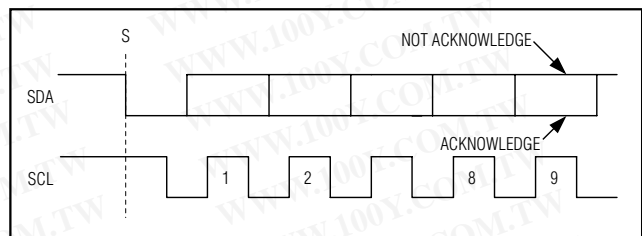

Figure 6. Acknowledge Bits
Successful data transfers are acknowledged with an acknowledge bit (A) or a not-acknowledge bit (\bar{A}). Both the master and the MAX1036-MAX1039 (slave) generate acknowledge bits. To generate an "acknowledge," the receiving device must pull SDA low before the rising edge of the acknowledge related clock pulse (ninth pulse) and keep it low during the high period of the clock pulse (Figure 6). To generate a "not acknowledge," the receiver allows SDA to be pulled high before the rising edge of the acknowledge related clock pulse and leaves it high during the high period of the clock pulse.